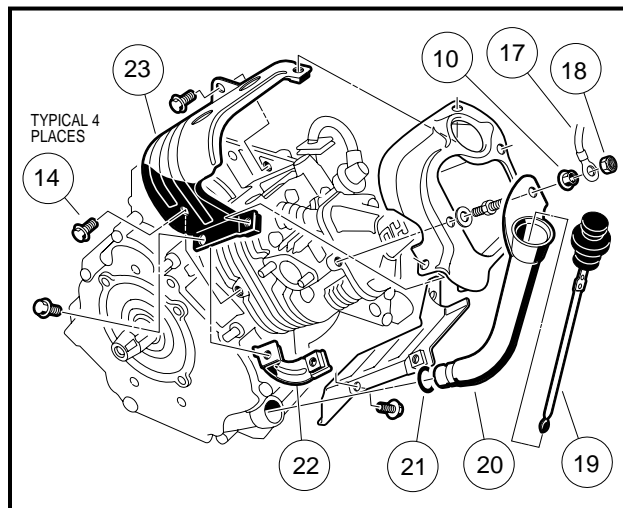

Figure 13-8 Upper Shroud and Oil Filler Removal
11. Disconnect oil filler tube (20) from cylinder shroud by first removing the locknut (18), ground wire (17) and flange nut (10) and then pulling oil filler tube out of the crankcase cover (**Figure 13-8, Page 13-10**).